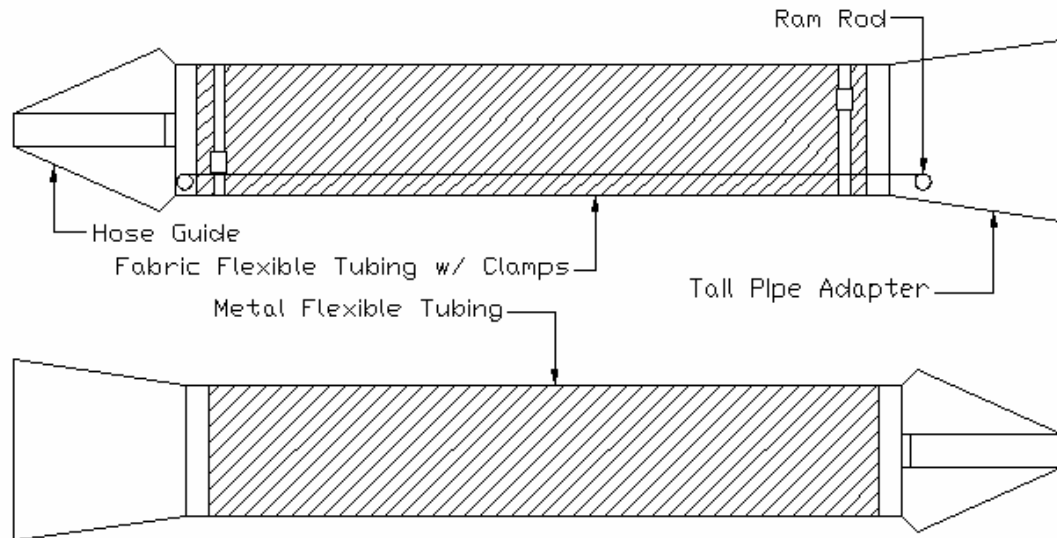

FIG 3: OVERHEAD DISAPPEARING TUBING ASSEMBLY LAYOUT
6. Connect the flexible tubing to tailpipe adapter & hose guide as shown in FIG 3. Tubing may be assembled prior to delivery.